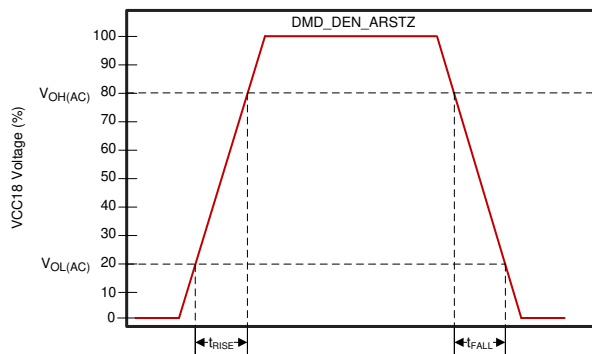
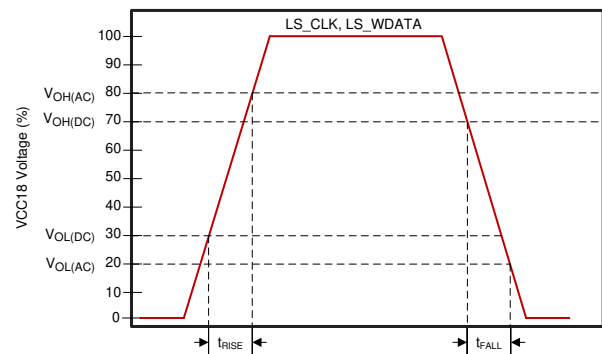

图 6-3. DMD_DEN_ARSTZ Slew Rate
图 6-4. LS_CLK and LS_WDATA Slew Rate
- See Figure 6-4 for DMD_LS_CLK, and DMD_LS_WDATA rise and fall times. See Figure 6-3 for DMD_DEN_ARSTZ rise and fall times.